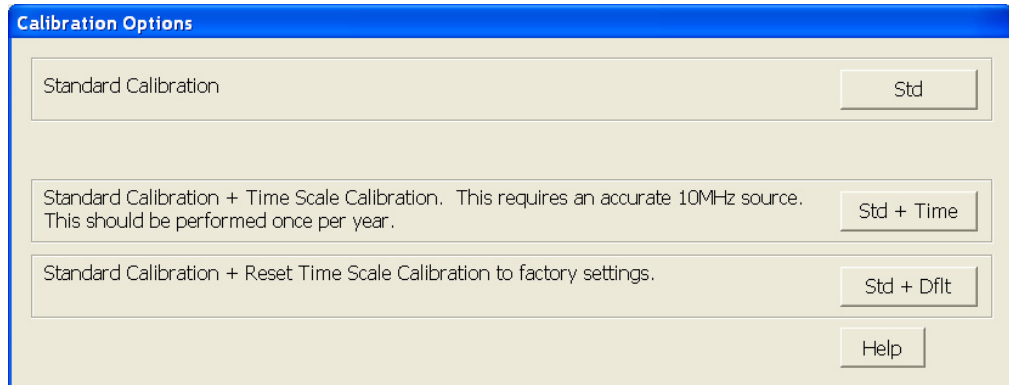

Figure 57 Time Scale Calibration Dialog box
- e During the calibration of channel 1, if you are prompted to perform a Time Scale Calibration, as shown in Figure 57 below.